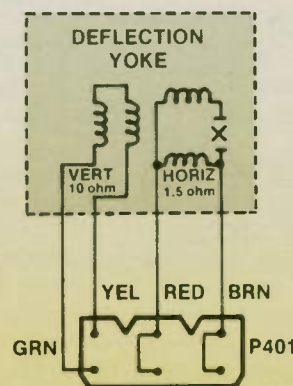

Fig. 8: Always break parallel connections and ring yoke windings individually. Damping resistors must be disconnected when ringing yokes.
Fig. 8(A) shows the TV screen when we're playing back the Multiburst Bar Sweep video pattern from a reference tape. Now, we will replace the tape signal by injecting the VC63 signal at the output of the video head switcher—test point (45)